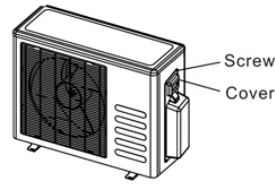

Fig.53
1. Remove the electrical control board cover from the outdoor unit by loosening the screw as shown in Fig.53.